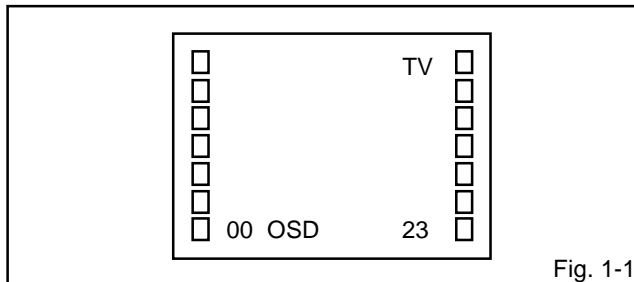

Fig. 1-1
Press the VOL. DOWN button on the set and the Channel button **(9)** on the remote control for more than 2 seconds to appear the adjustment mode on the screen as shown in **Fig. 1-1**.
3. Activate the adjustment mode display of **Fig. 1-1** and press the channel button **(01)** on the remote control to select "CUT OFF".
4. Activate the adjustment mode display of **Fig. 1-1** and press the channel button **(10)** on the remote control to select "R.BIAS".
3. Activate the adjustment mode display of **Fig. 1-1** and press the channel button **(22)** on the remote control to select "TINT".
6. Activate the adjustment mode display of **Fig. 1-1** and press the channel button **(19)** on the remote control to select "COL.CENT".